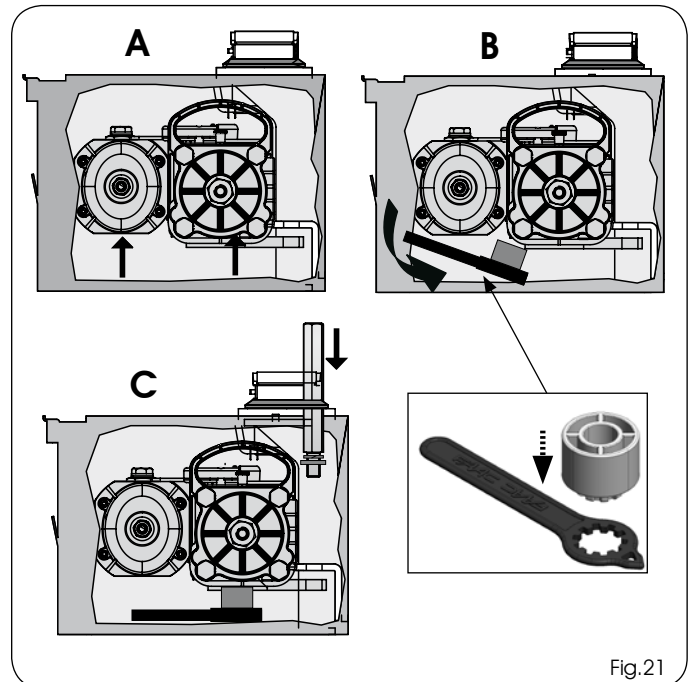

Fig.21
- 13) Raise the operator with its handles (Fig.21 ref. A), inserting the pinion in the grooved bush in the bearing case. To make the operation easier, slightly rotate the operator until coupling takes place.
- 14) Place the supplied key under the operator, as shown in figure 21, in order to support the motor.
- 15) Insert and screw the fastening screws with groove and washer as shown in Fig. 21 C, in order to secure the operator to the bearing case.